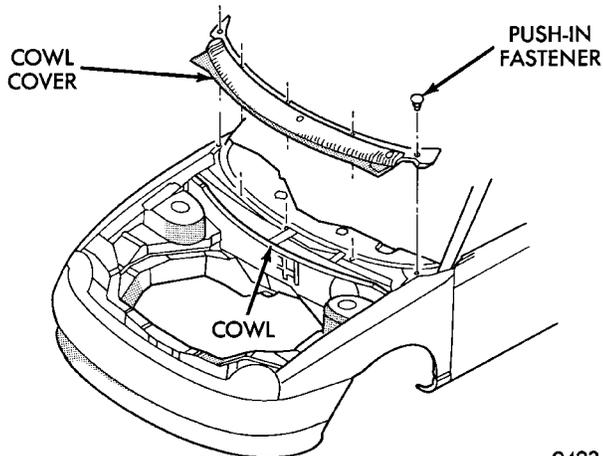

Fig. 4 Cowl Cover
- (1) Release hood latch and open hood.
- (2) Remove windshield wiper arms, refer to Group 8K, Windshield Wiper and Washer Systems for proper procedures.
- (3) Remove push-in fasteners holding cowl cover to cowl at base of windshield opening (Fig. 4).
- (4) Separate cowl cover from vehicle.